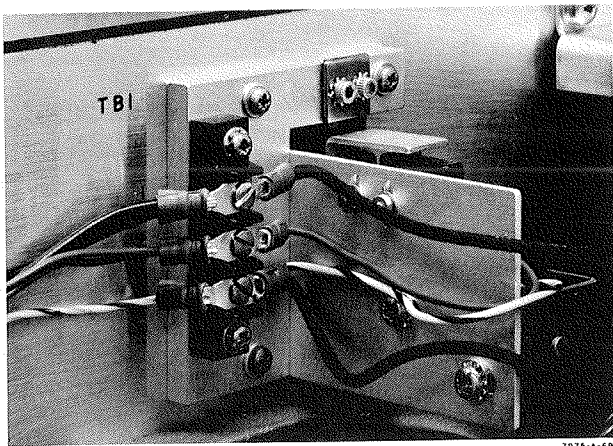

Figure 7-12. Write Enable Assembly
- a. Mount write enable unit on rear of transport as shown in figure 7-12. Do not tighten screws.